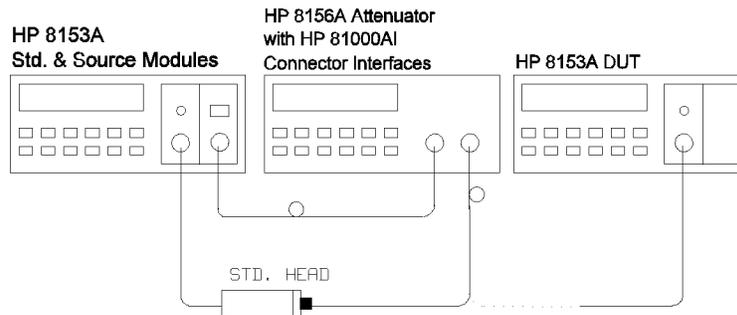

Figure D-1. Accuracy and Linearity Test Setup
2. Connect the equipment as shown in Figure D-1. Ensure that the cables to and from the attenuator are fixed on the table and that both the optical head and the DUT are close together so that minimum cable movement is required when connecting the cable to the head or to the DUT.
- Connect the equipment as shown in Figure D-1.